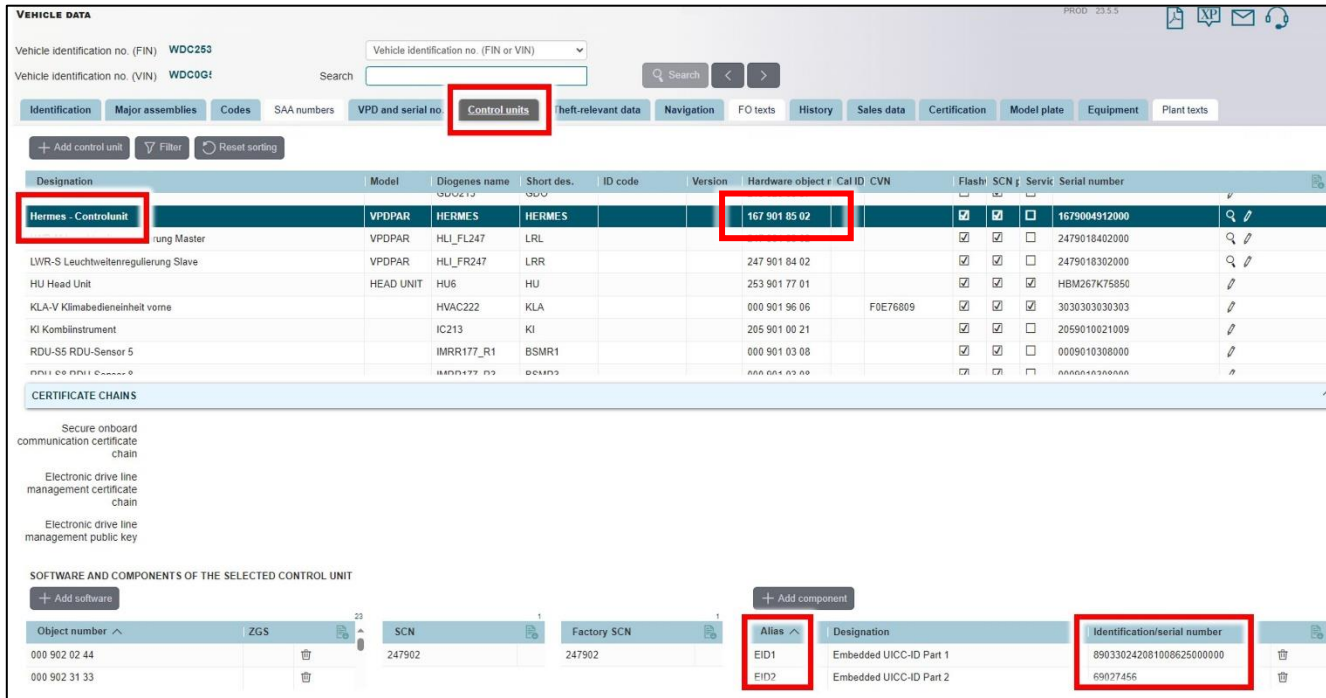

Figure 7\*\*
**i** To do this, enter the VIN, "Search", select "Control units", and click on "Hermes - control unit" (Figure 7).
**- E.g. shown in Figure 7 – Hardware object number is 167 901 85 02**